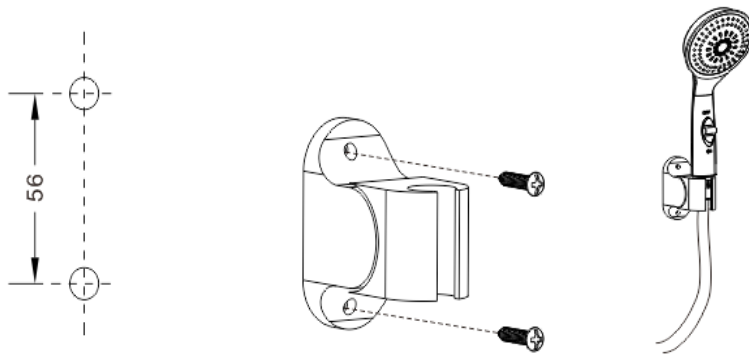

Fig. 15
- Installation of shower base (Fig. 15)